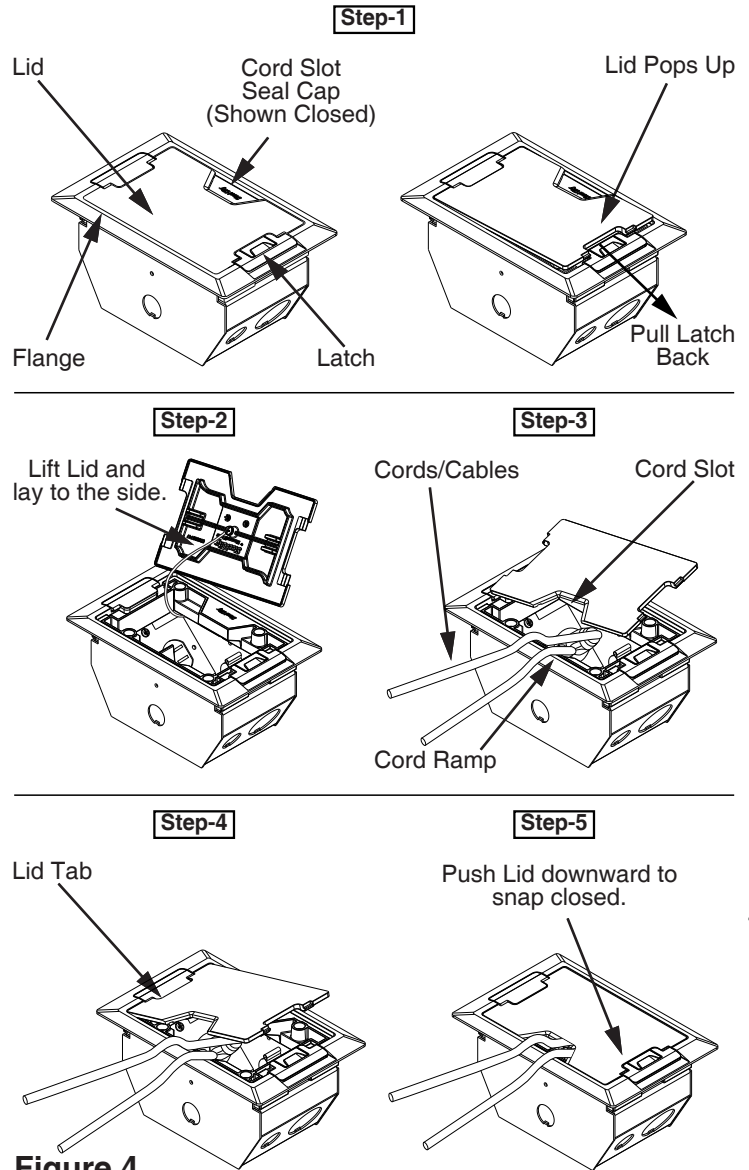

Figure 4
- Step 2. Unplug and remove all cords/cables. Rotate cover around so that cord slot feature of the CST Lid is positioned over the seal cap (See Figure 4)